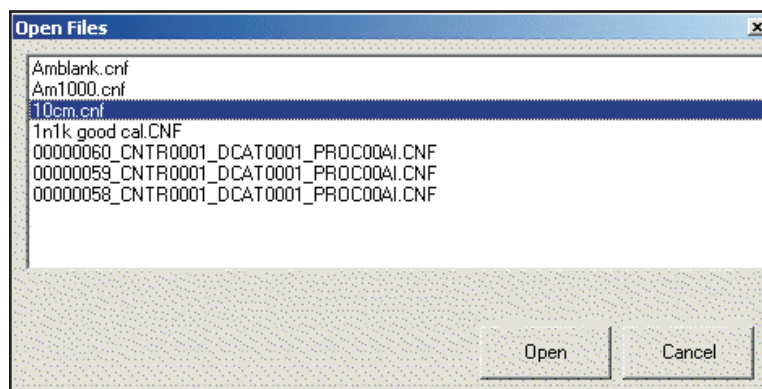

Figure 75 The View Files List
2. A list of the InSpector's spectrum files will be displayed (Figure 75). Highlight a file then select **Open**.